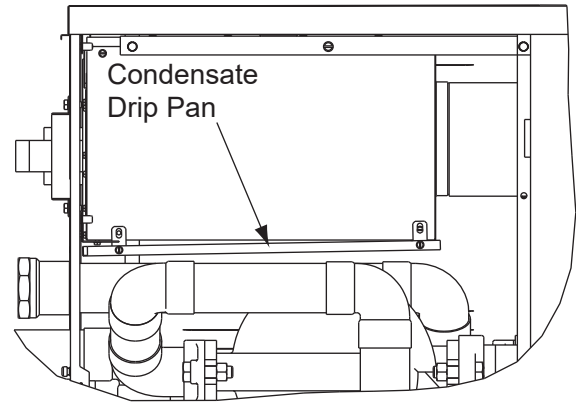

Figure 9. Install the Condensate Drip Pan
- Optional—For applications where condensation may form on cold intake air ducting, install the condensate drip pan to the bottom of the air filter box using the four screws provided (verify that the pan is angled slightly downward toward the rear of the heater as shown in **Figure 9**).